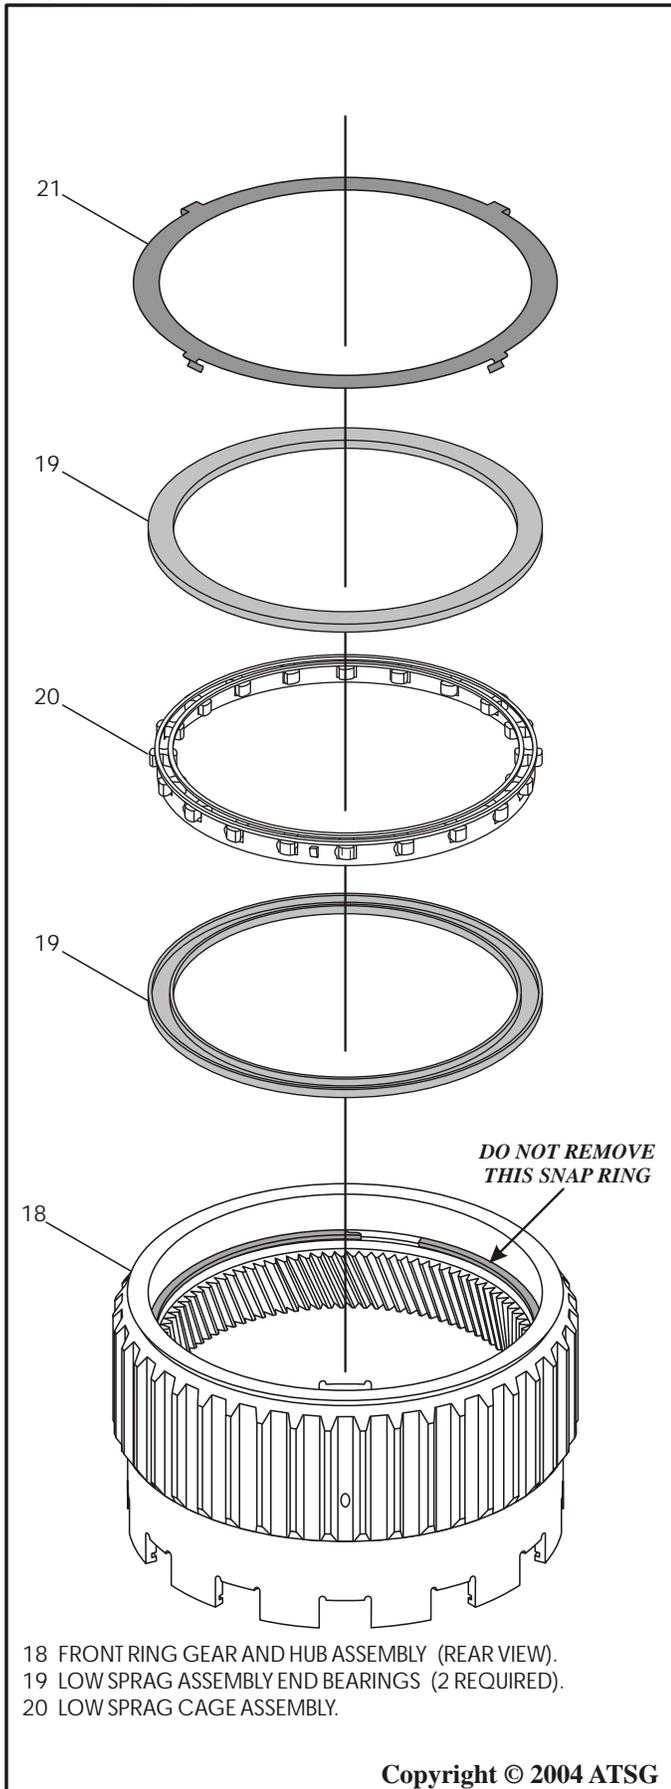

Figure 91
4. Position front ring gear and hub assembly on flat work surface, as shown in Figure 91.
- Note: Notice in Figure 90 & Figure 91 that snap ring does not need to be removed.*
5. Install low sprag end bearing in the direction shown in Figure 91, down against snap ring.
7. Install the second low sprag end bearing into ring gear with flat side facing up, as shown in Figure 91.
8. Install the low sprag retainer onto the ring gear, as shown in Figure 91, by snapping onto the ring gear and ensure that it is fully seated, as shown in Figure 93.